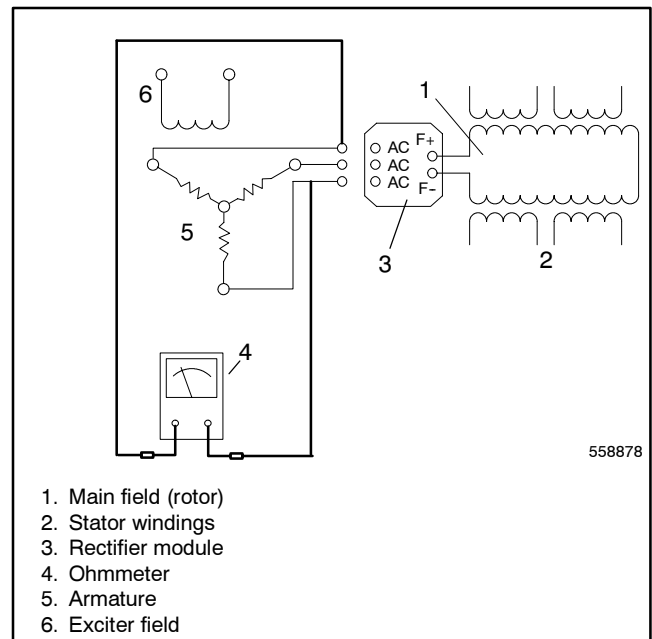

Figure 7-8 Exciter Armature Ohmmeter Test
3. With an ohmmeter on the R x 1 scale, check the resistance across the exciter armature leads. See Figure 7-8. The armature resistance should be 0.6–0.8 ohms (continuity). No continuity indicates an open armature winding. Replace the armature.